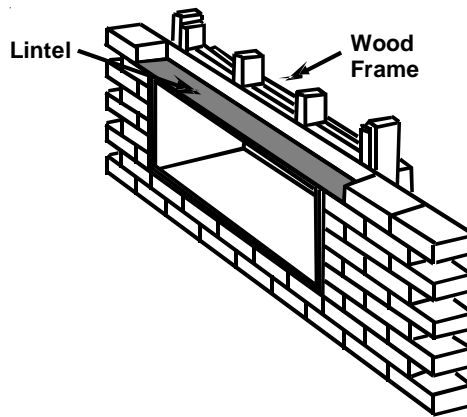

Figure 4
- If installed in a concrete or masonry wall, a lintel must be provided in the wall opening for support. **Do not use the wall sleeve as a lintel.** If the wall is less than 8" thick or of hollow construction, an alternate means of support for the sleeve must be provided. See Figure 4 for a typical lintel construction.